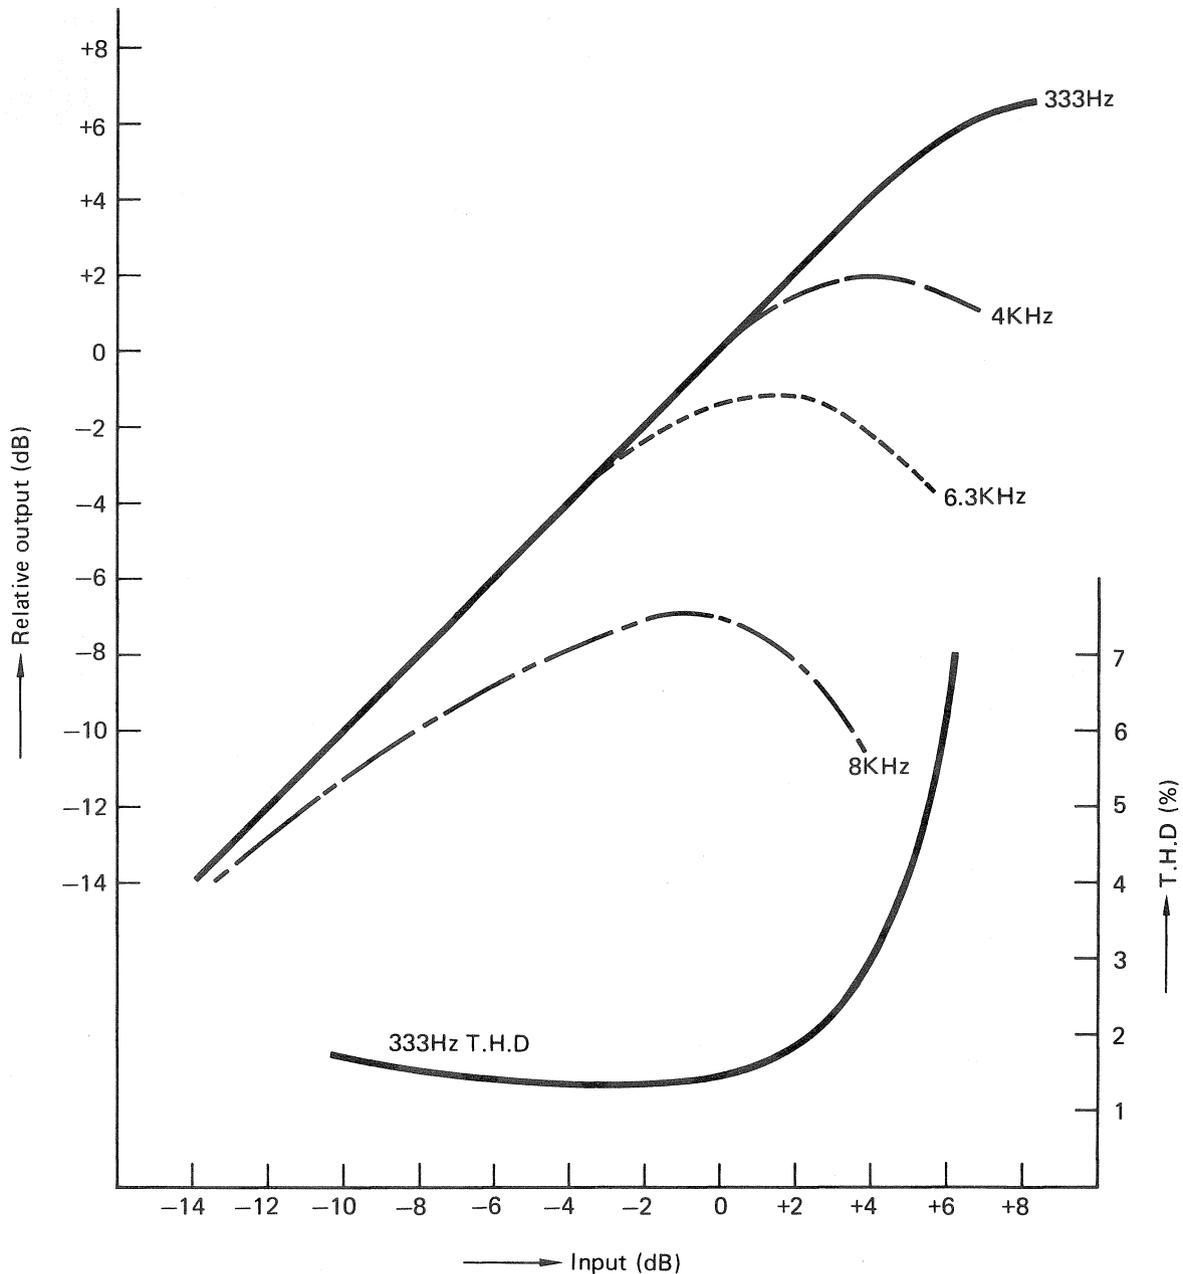

Fig. 5 Input and output, distortion characteristics of cassette tapes
- 1) At low frequencies, if the recording level is raised, the distortion increases (see Fig. 5).
Accordingly, as the frequency of the recording signal rises, the signal saturates in the lower level and characteristics of input and output are aggravated (see Fig. 5).